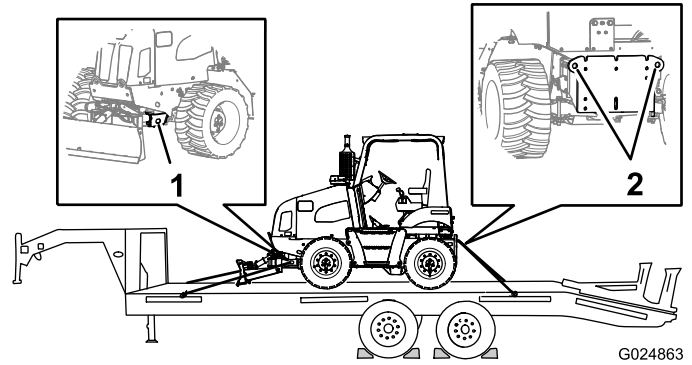

Figure 53
9. Fasten the front and rear of the machine to the trailer using chains and a binder (Figure 53).